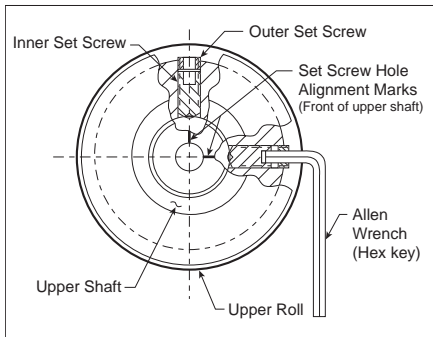

Figure 8
15. Insert the allen wrench completely through the outer set screw and into each inner set screw, as shown in Figure 8 above. Loosen each inner set screw two turns.